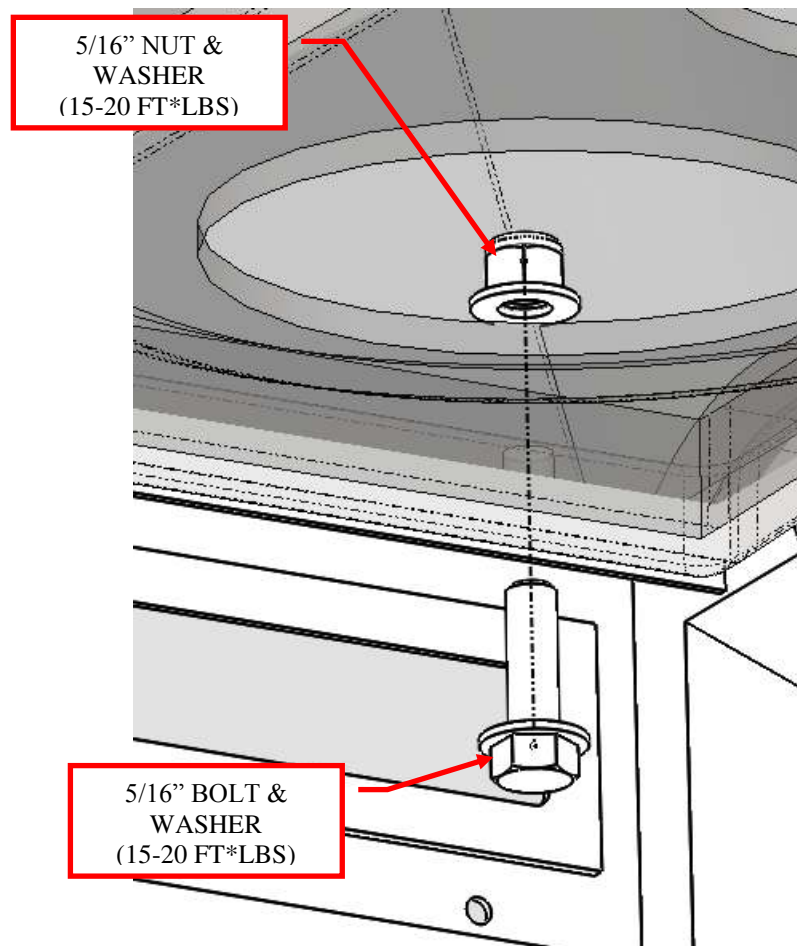

Figure 4: Install the hardware in the top.
5. Bolt the top to the cage using the supplied 5/16" hardware. Make sure and use the nylock nut and washer inside the top and use a bolt and washer outside. Torque to 15 to 20 ft.*lbs. See Figure 4.